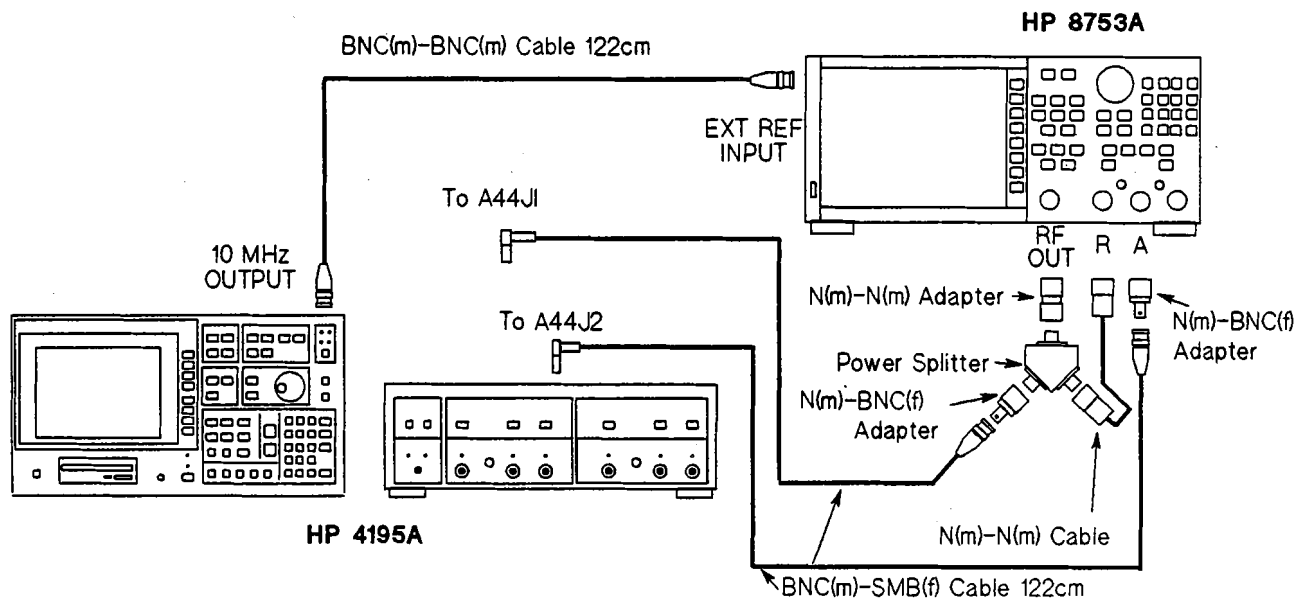
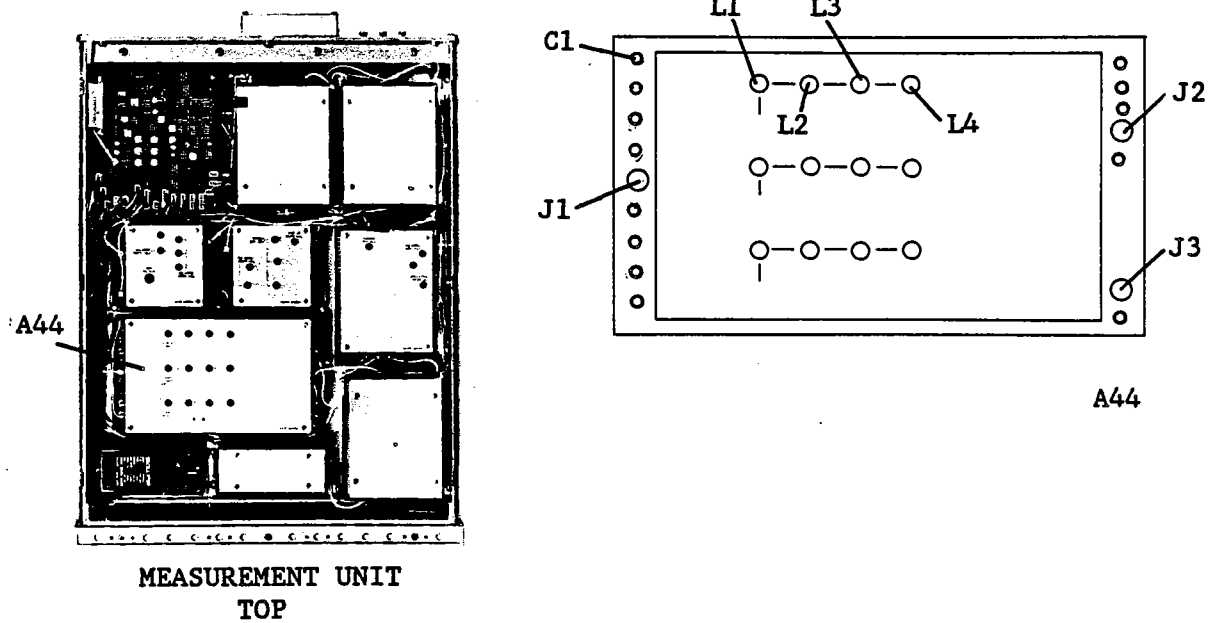

Figure 3-121. Source Output Filter Adjustment Setup
Figure 3-122. 150 - 225 MHz Voltage Tuned BPF Adjustment Locations
9. Connect the equipment as shown in Figure 3-121. See Figure 3-122 for the locations of A44J1 and A44J2.
9. Connect the equipment as shown in Figure 3-121. See Figure 3-125 for A44J1 and A44J2 locations.